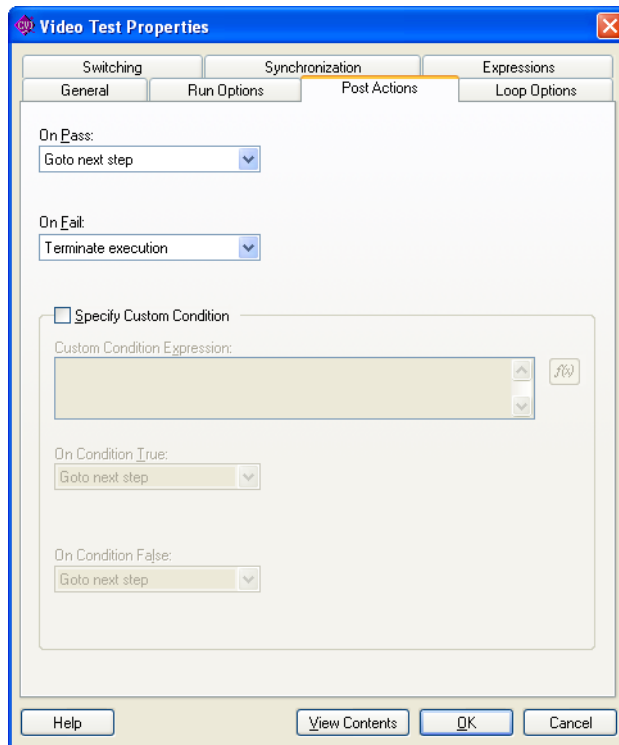

Figure 4-9. Post Actions Tab
4. Click the **Post Actions** tab, which is shown in Figure 4-9. This tab specifies what type of action occurs after the step executes. You can make the action conditional on the Pass/Fail status of the step or on any custom condition expression.